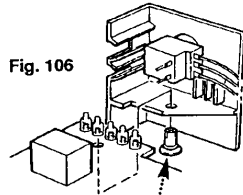

Fig. 106
- the thermostat control panel (Fig. 106 & 107). (On reassembling ensure the control panel is located over the